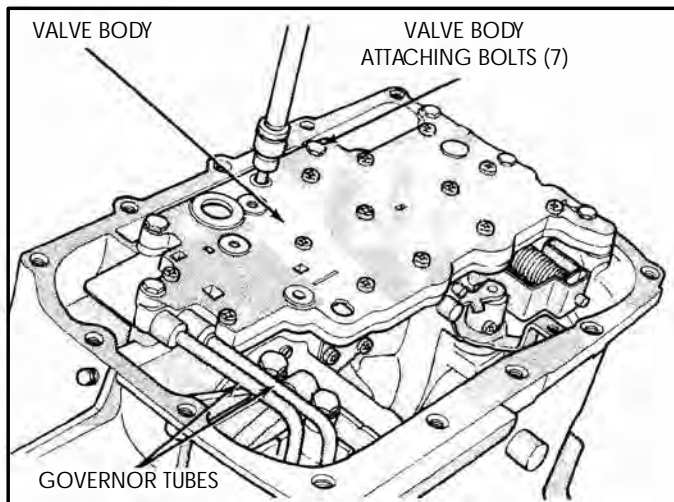

Figure 238
2. Install the pre-assembled valve body assembly and governor tubes, as shown in Figure 238, ensuring that governor tubes are in the proper locations in governor support bearing retainer.
3. Hand start the seven valve body attaching bolts, as shown in Figure 238.